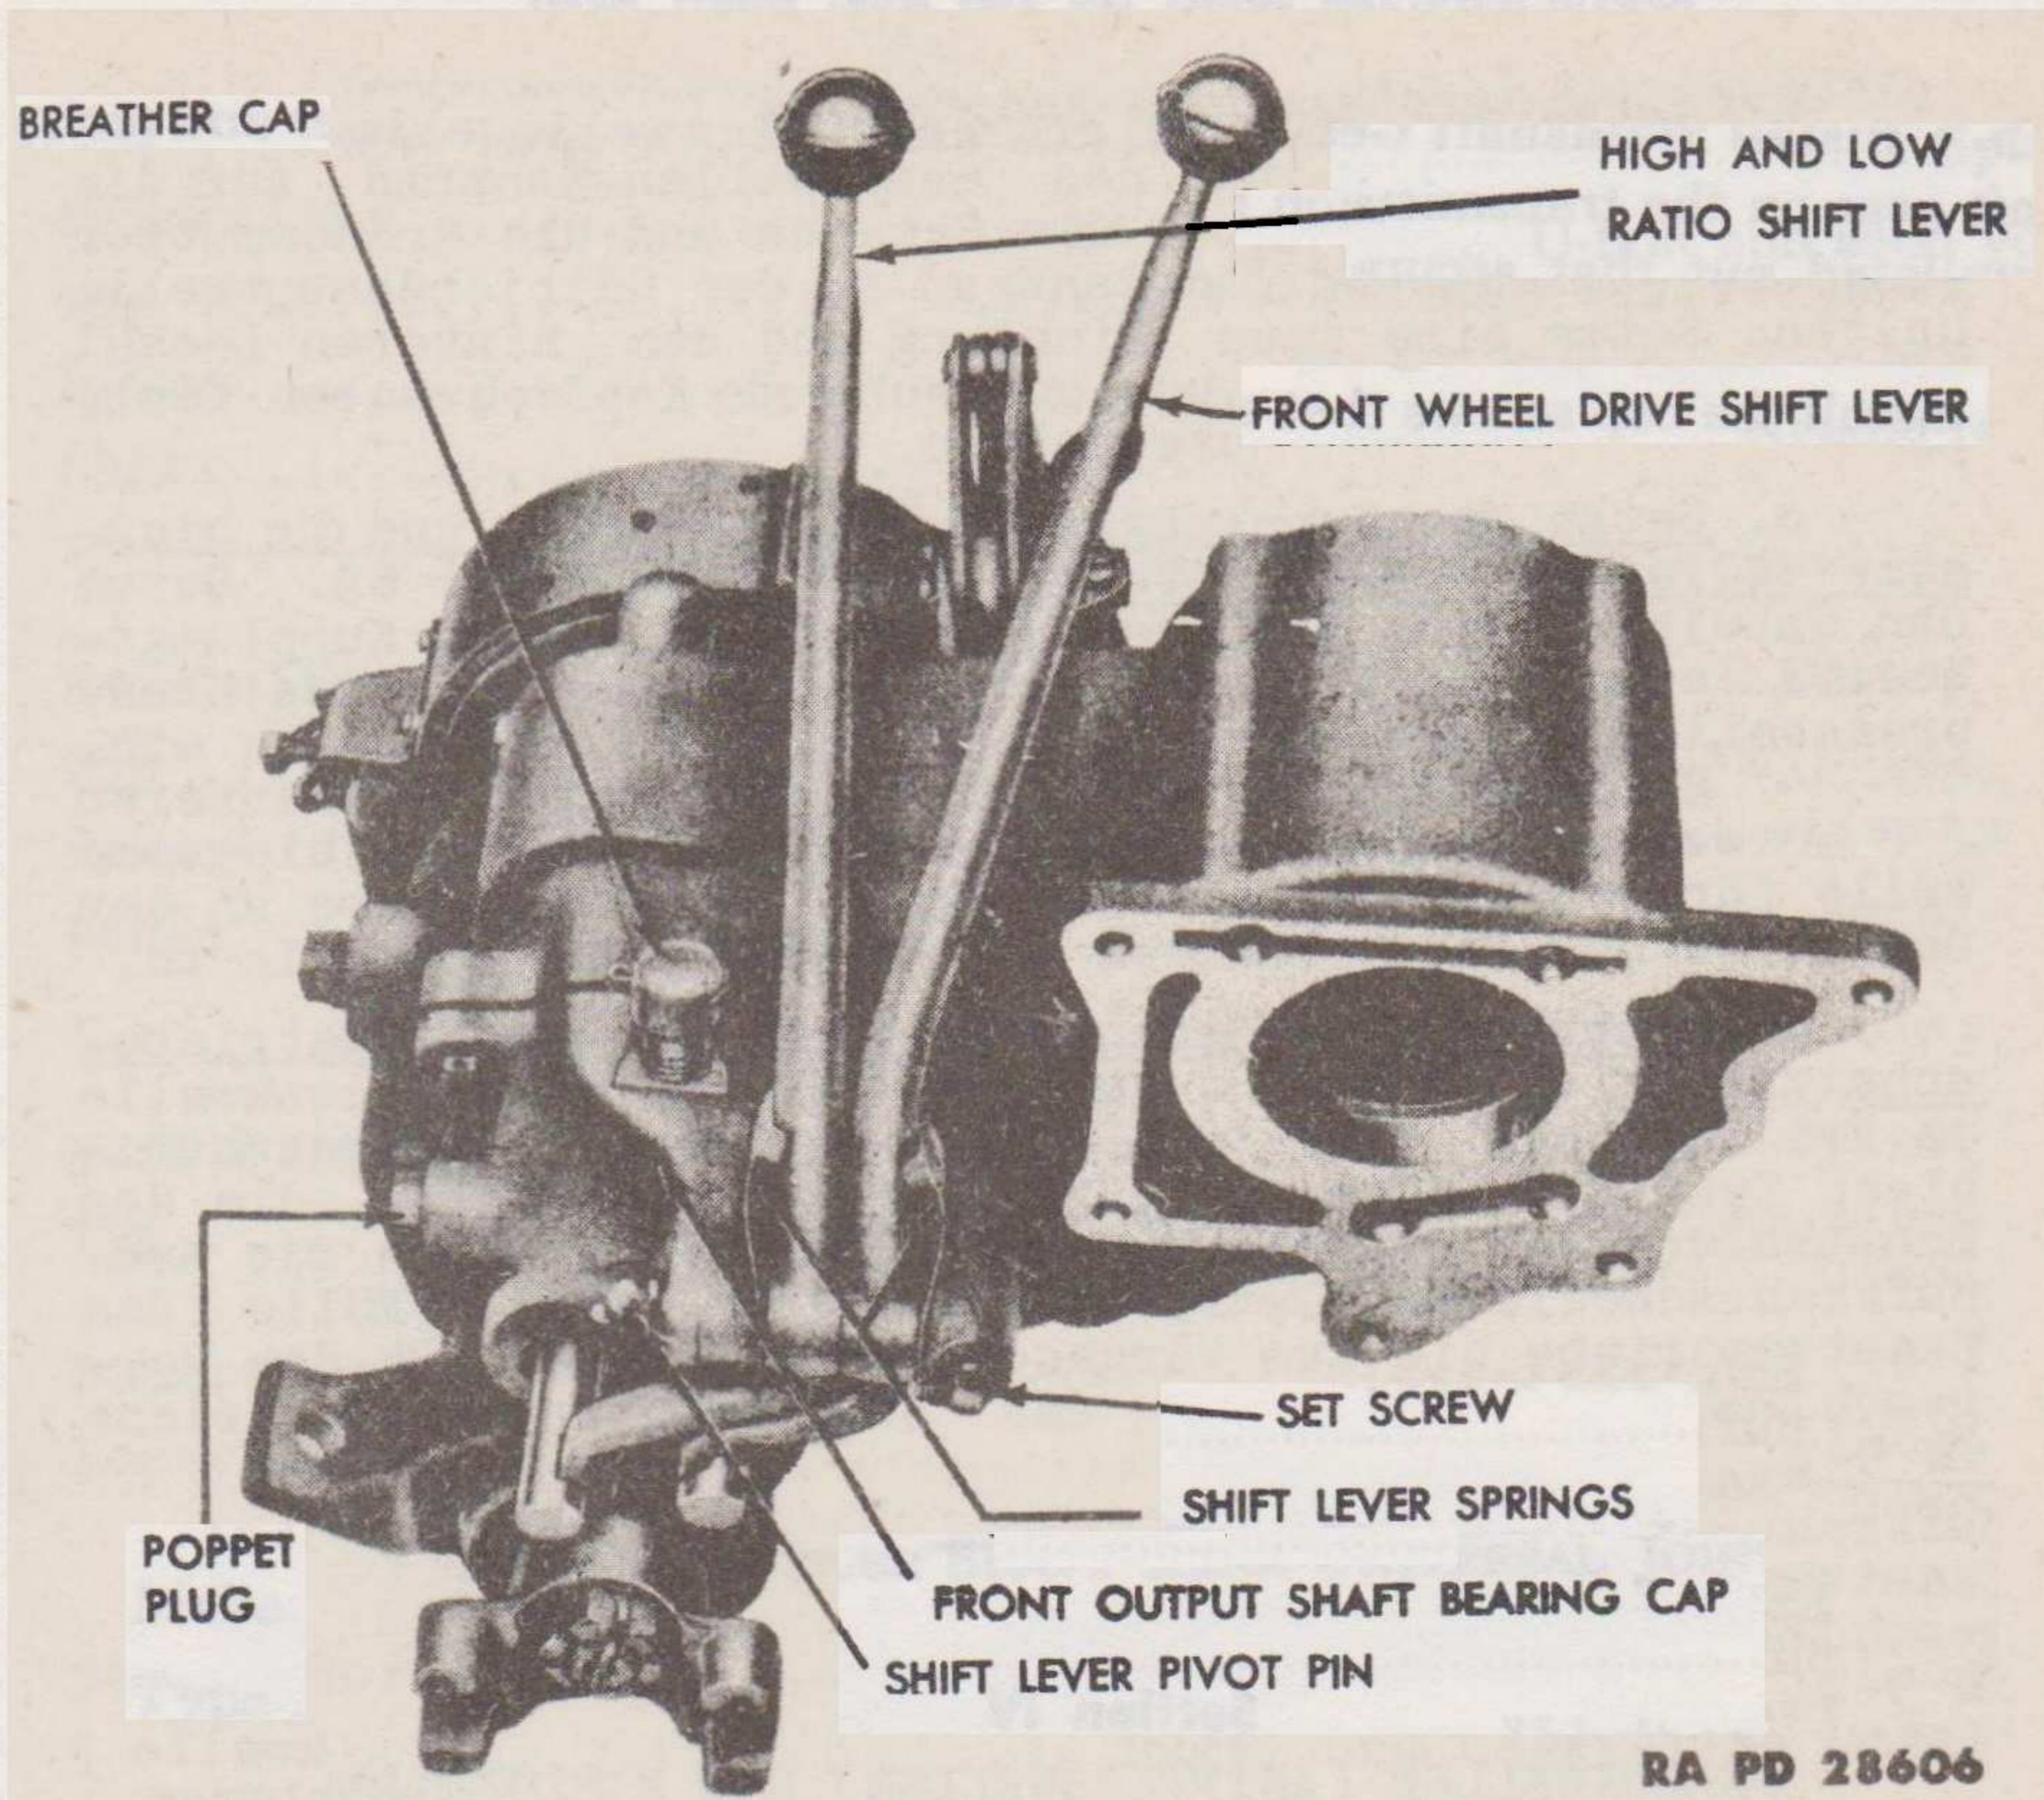

Figure 29 – Transfer Case Shift Levers
d. Remove Shifter Shaft and Front Output Shaft Bearing (fig. 29). Shift front axle drive to the engaged position. Remove the poppet plug, spring, and ball on both sides of the output shaft bearing cap. Remove the five cap screws that secure the front output shaft bearing cap to the transfer case. Remove the front output shaft bearing cap as an assembly with the universal joint flange, clutch shaft, bearing, clutch gear, shifter fork, and shifter rod. Be careful not to lose the interlock in the front bearing cap.
(7) **SHIFT LEVER ASSEMBLY** (fig. 29). Replace the shift levers if found bent or damaged. Replace the shift lever spring if bent or cracked. Measure the diameter of the shift lever pivot pin. If the diameter is less than 0.500 inch, replace the pivot pin.